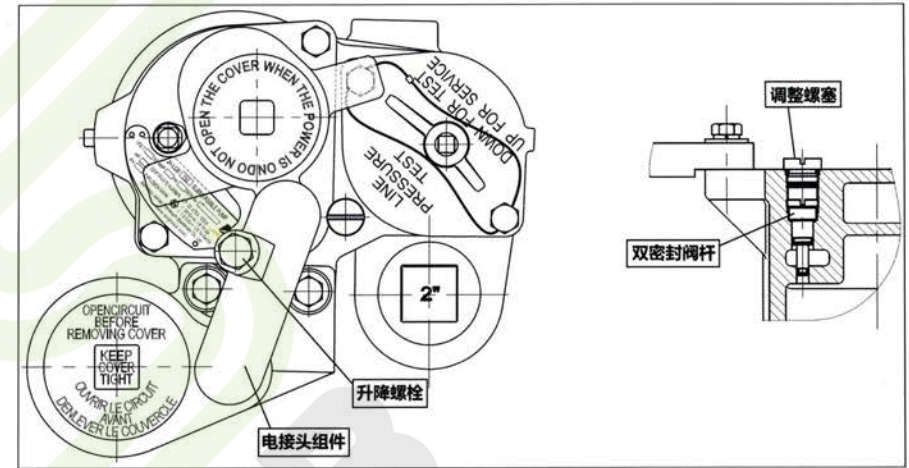

Figure 17 Manifold
- 2 Back our the electrical yoke disconnect bolt (see Figure 17)